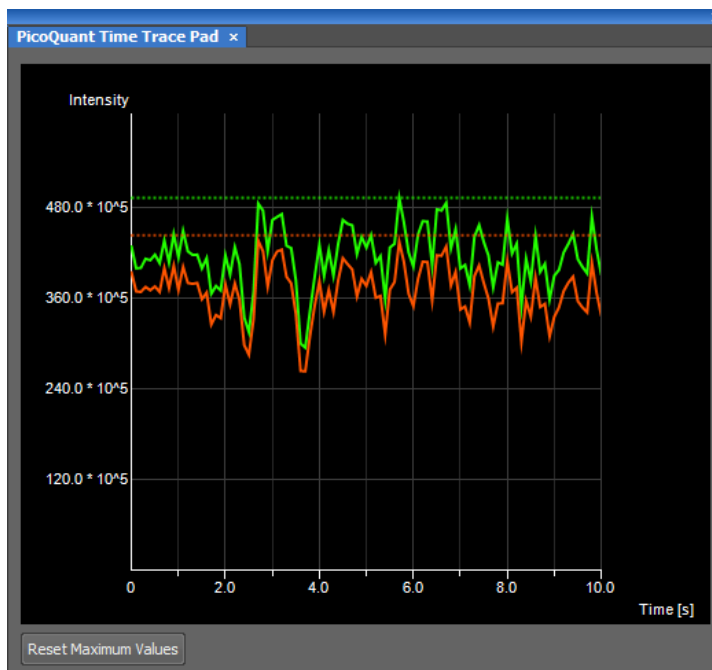

Fig. 3.31: Online Preview of the time trace.
6. The Time Trace can be observed by opening the "Time Trace Pad". The changes of the count rate over time can be observed (Fig. 3.31).